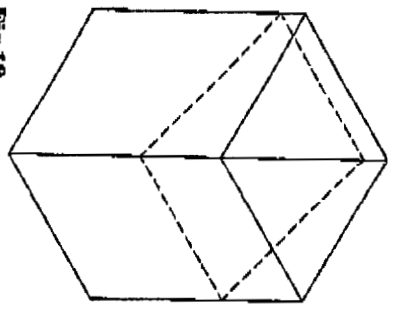

Fig 18
1. Mark a line on the side of the Cathedral Ceiling Support Box to correspond to the line of the roof pitch, as shown in Figure 18. Allow for the Support Box to protrude below the low side of the finished ceiling a minimum of 2 inches.